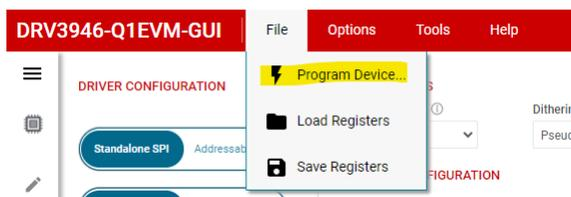

Figure 5-3. GUI Program Device Tab
3. Click on File -> Program Device to program the EVM (see Figure 5-3). A small pop-up small window shows the firmware flashing progress. A message is displayed if errors occur. If there are no errors, the display will indicate that the flashing was successful.